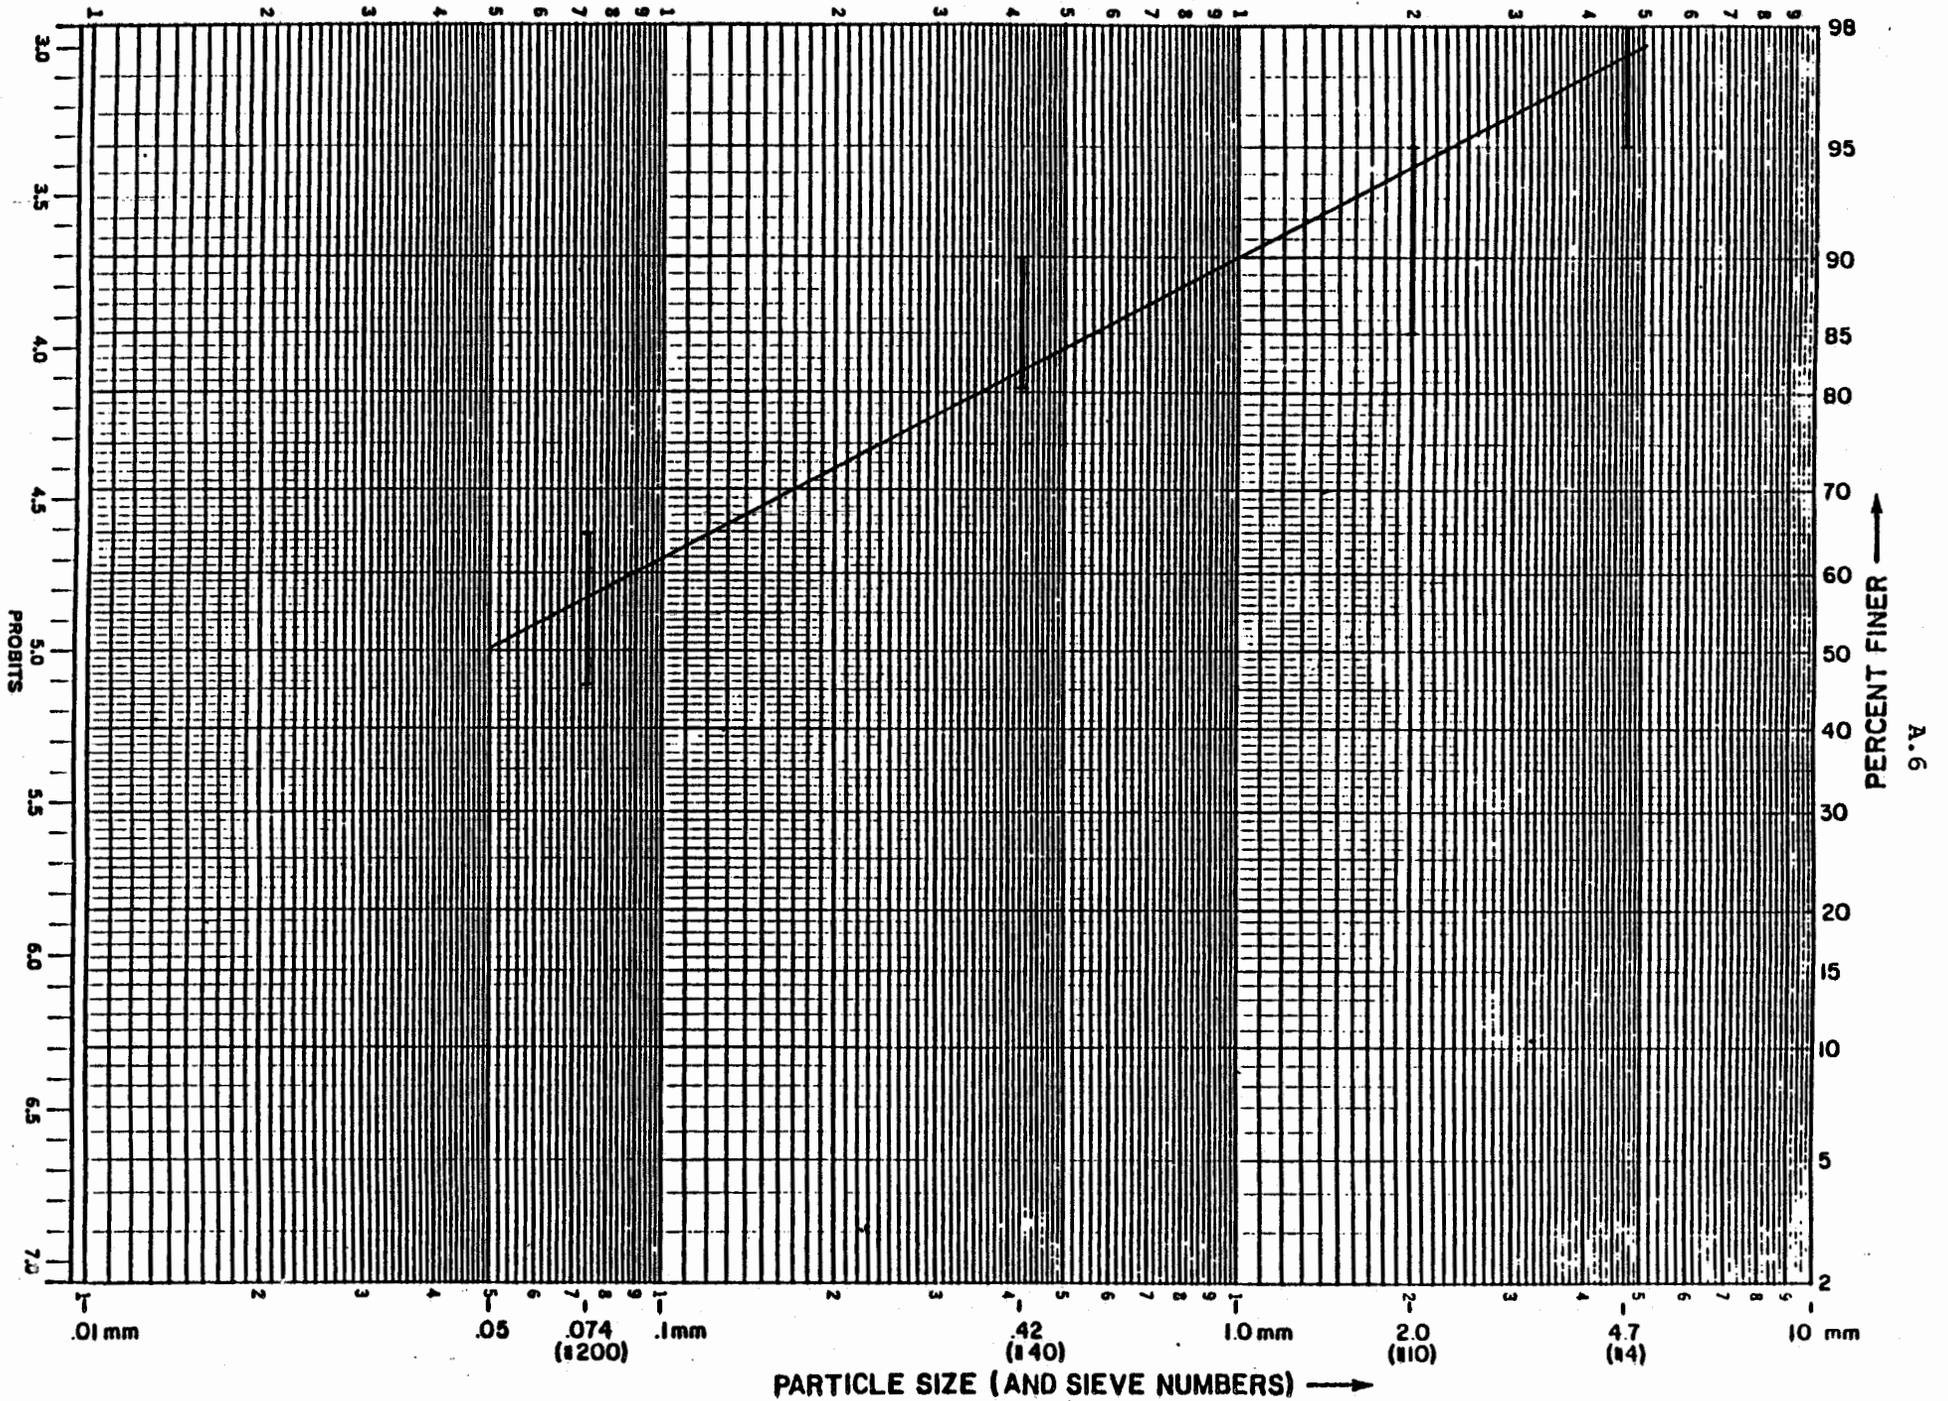

Figure A.2. Particle size distribution of example soil.
2. Plot data (Figure A.2) according to Steps \*1 through \*8 above.